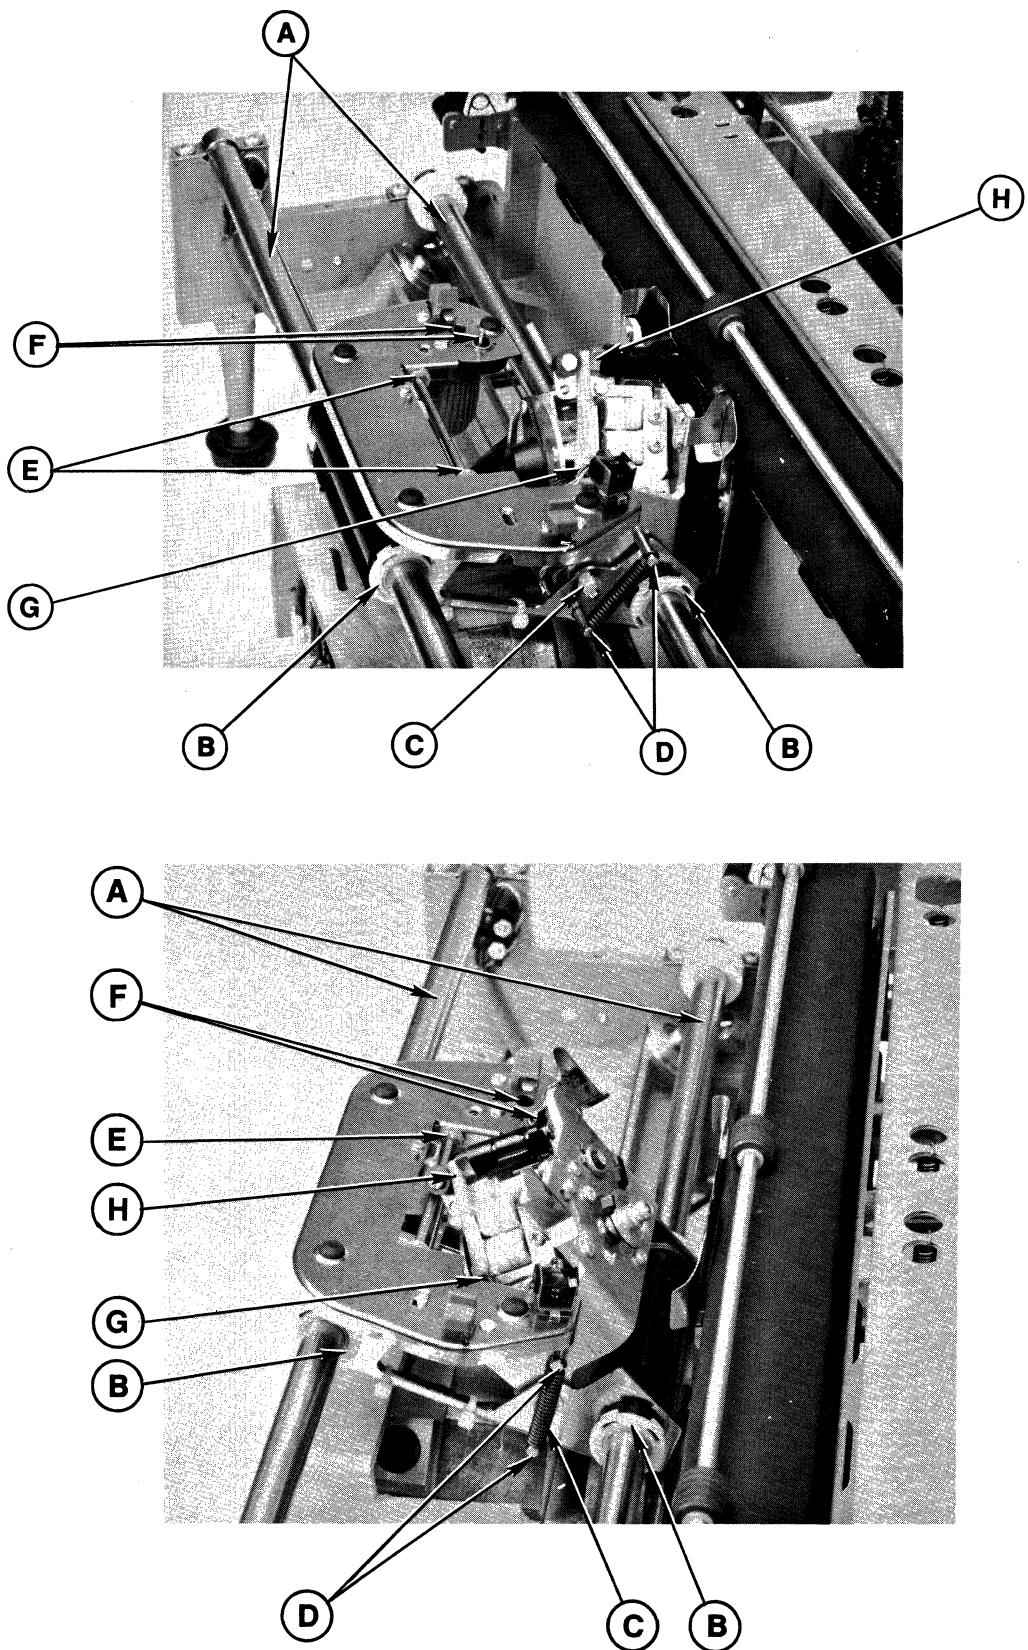

Figure 3-2. Carriage System Lubrication Points
3.2.3.2 CARRIAGE SYSTEM (Figure 3-2)